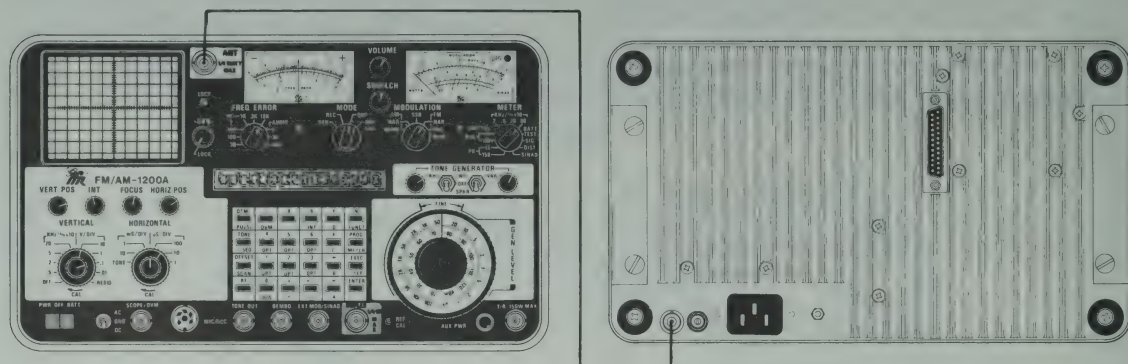

Figure C-1 Performance Test Set-Up Diagram
| 2. | Connect 2-foot length of 50 Ω coaxial cable between ANT Connector (34) and External Reference Connector (46) as shown in Figure C-1. |